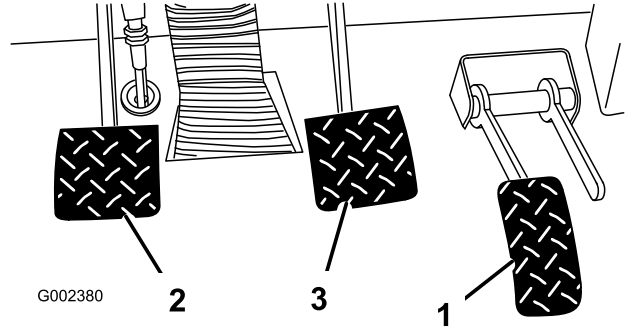

Figure 68
2. Lift up on brake pedal (Figure 68) until it contacts frame.